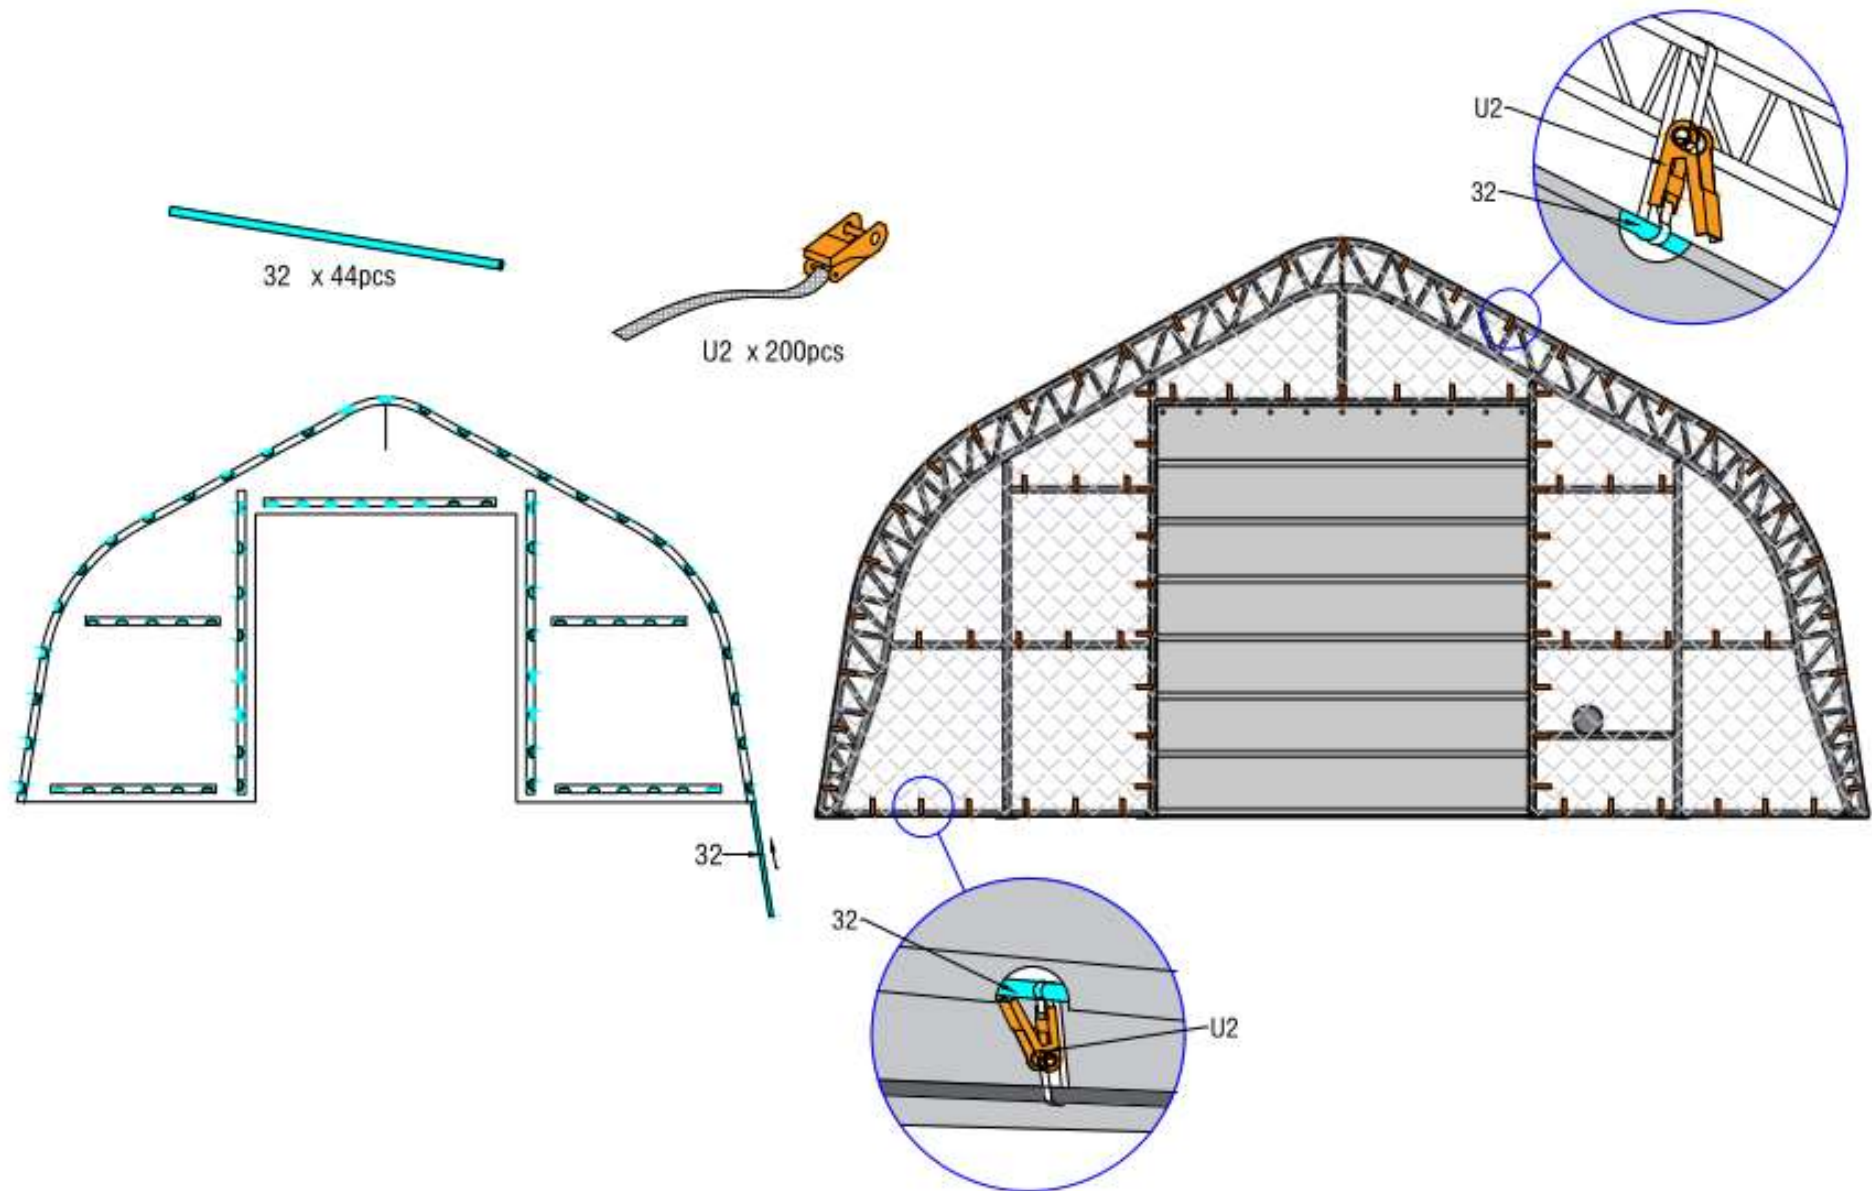

Figure 17
4. When you close the door, we can use the Lock steel wire for door and Lock steel wire for the wrench handle to fix. (Figure 17).